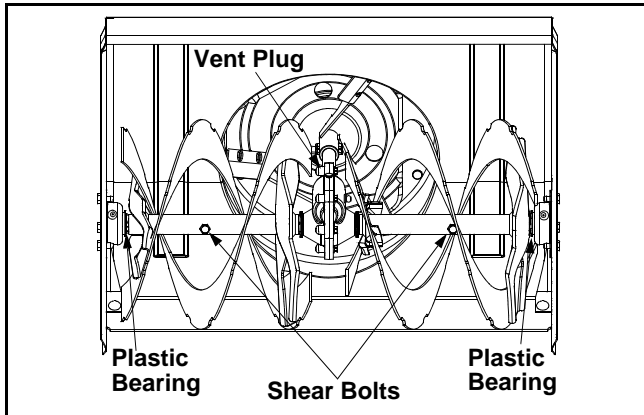

Figure 24
- At least once a season, remove shear bolts on auger shaft. Oil or spray lubricant inside shaft and lubricate the auger bearings. See Figure 24.
- The augers are secured to the spiral shaft with two shear bolts and hex lock nuts. If you hit a hard foreign object or ice jam, the snow thrower is designed so that the bolts may shear. Refer to Figure 24.